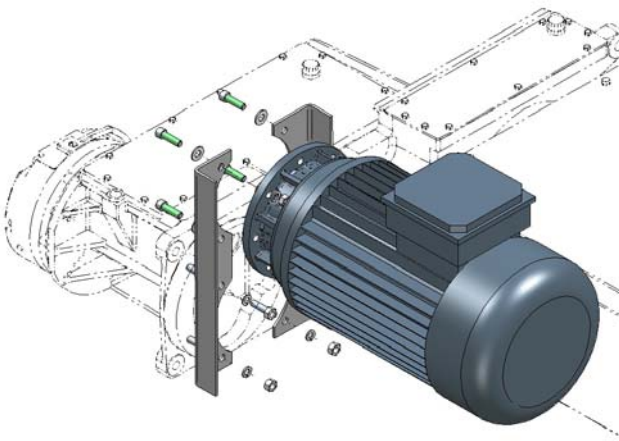
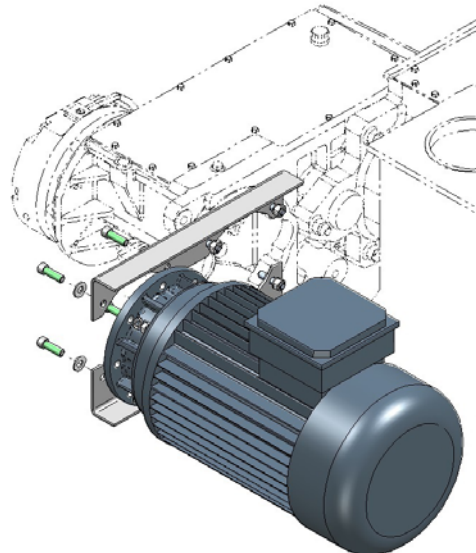

Figure 30 – Vertical Positioning
Figure 31 – Parallel Positioning
*Where space is available, the motor should be supported by the brackets above the gearbox mounting position (Figure 30). If space is limited in the vertical axis, the brackets can offset the motor to the side of the gearbox (Figure 31).*